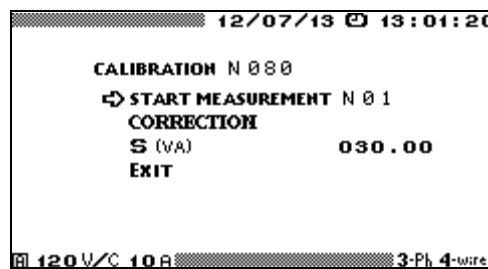

Fig. 4.35. "Calibration of VTs" entry window
Press "ESC" to return to the Main menu, or select "ENTER CALIBRATION N" item and press "ENT" to go to the next calibration screen (Fig. 4.35).
To make zero correction, enable "ENTER CALIBRATION N" item (Fig. 4.35) and open "Enter measurement N" screen (Fig. 4.37) where measurement results are displayed. Manually adjust the variable HV source to obtain the required test voltage across primary windings of both reference VT and that under test. While doing this, watch secondary voltage of Reference VT (displayed as voltage in phase B ( $U_{B(1)}$ ) on the screen)
On the VTCS, position "Correction / Measurement" switch to enable "CORRECTION" mode. This applies output voltage from the reference VT (reference voltage) to UA and UB inputs of the EM 3.3T1. Enable "CORRECTION" option in the "Enter calibration N" screen (see Fig. 4.35, 4.36). The EM-3.3T1 will carry out zero correction, namely it will electronically compensate both amplitude difference and phase shift between voltages in channels A and B.
Before calibration, it is necessary to type in the value of apparent power that was selected on the Burden Set for the VT under test load (VA). Go to “CALIBRATION N” window (Fig. 4.35), put the cursor opposite to S (VA) option and press “ENT”. Set the required value in the editing window.
Then select “ENTER MEASUREMENT N” option in “CALIBRATION N” (Fig. 4.35) window. The window pictured below will be displayed (Fig. 4.37).
A measurement can be stopped at any time by clicking on "**STOP MEASUREMENT N**" prompt, which will turn to "**SAVE MEASUREMENT N**". By clicking on "**Save...**" option you may record the result in to the EM 3.3T1 memory. Before the next measurement, you may change the value of apparent power (VA) by selecting a new one on the Burden Set (then the new value shall be manually specified in the "**Measurement entry**" screen (Fig. 4.35). Then repeat the procedure with other test conditions.